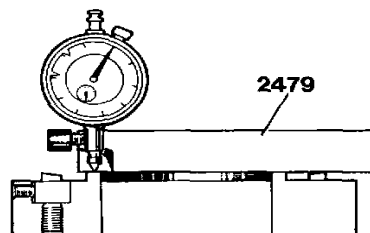

Fig. 44. Zero setting the dial indicator
2. Place a dial indicator in holder 2479 and place it on the ring-shaped shoulder of the tool (fig. 44). Zero set the dial indicator against the shoulder.